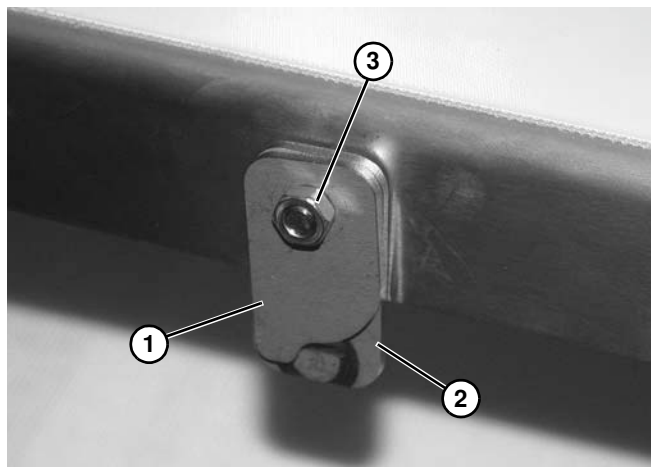

Figure 24
3. Install clip bracket (**Figure 24, item 1**) onto shaft bracket (**Figure 24, item 2**) and carriage bolt. Secure with nut (**Figure 24, item 3**). Leave assembly loose. Do not tighten at this time. Repeat on opposite side of conveyor.